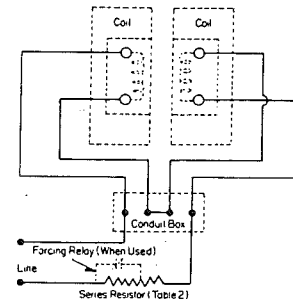

Figure 3: Shunt Coil Connection.
Shunt Coil Operation - Shunt brakes are usually supplied with low voltage coils for speedy action unless otherwise specified, and it is necessary to have a resistance in series with the coil. Coil voltage and value of series resistance is given in Table 2. Coils are connected per Figure 3 with full current flowing through both coils. In case of coil failure, brake may be operated on one coil for shorter time by shorting out defective coil.
Leads are covered with insulating compound at the coil terminals. If new leads are required, scrape compound from terminal until hardware is exposed. Replace lead and cover terminals with coat of compound. When changing coils, transfer travel indicator to new magnet. Bolt new magnet in place and bring leads into conduit box through rubber grommets for shunt coils or to terminal board. Make connection to power leads per Figure 3 or 4 depending on type of coils being used, and tape leads.
- Coils may be improperly connected with resultant bucking instead of cumulative magnetic flux. Check wiring per wiring per Figure 3 or 4.